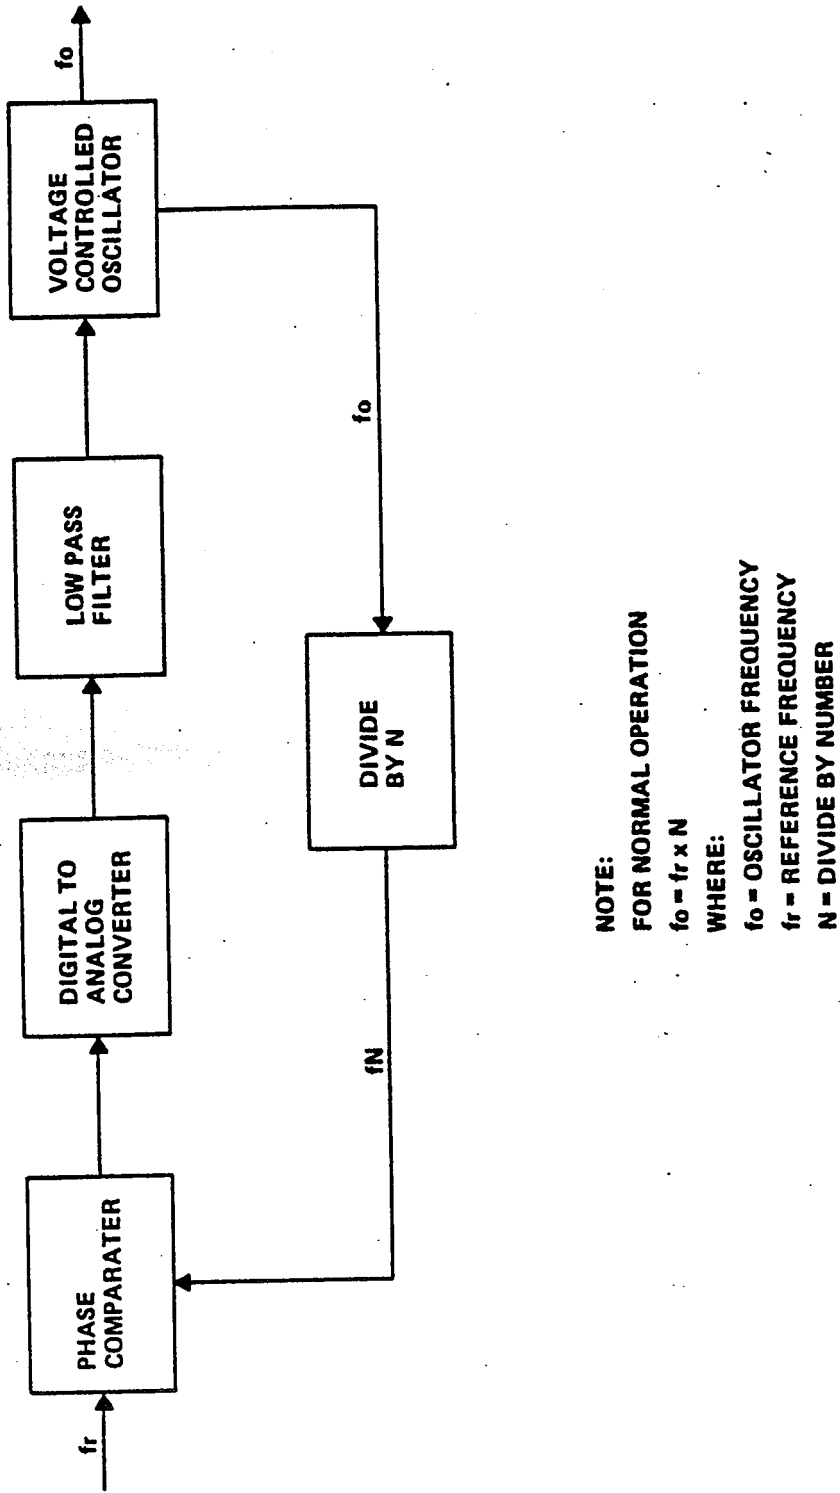

Figure 4-9. Typical Phase Lock Loop Functional Block Diagram.
The first local oscillator synthesizer circuit card assembly A7 contains circuits to produce the first oscillator frequency of 40.955 to 70.454999 MHz for the first mixer which in turn produces the first IF signal of 40.455 MHz. The description of this circuitry is divided into three basic groups: operation of phase lock loops, the digital control circuitry and the oscillator control circuitry. Figures 4-9 through 4-11 respectively, show simplified block diagrams of the three basic circuit divisions. Input signals to the circuit card assembly include receiver control and a 1 MHz reference frequency. The only output signal from the assembly is the 40.955 to 70.454999 MHz oscillator signal.
A basic phase lock loop consists of essentially four main blocks. These are shown in Figure 4-9 and are a Voltage Controlled Oscillator (VCO), a divider capable of dividing the output of the VCO by an integer number ($\div N$), a phase detector (Φ) and a Loop Filter Amplifier (LFA). A phase lock loop configured in this manner is capable of locking to the incoming reference frequency (F_{ref}) and in discrete steps, each frequency step being the same as the incoming reference frequency (F_{ref}). This is derived from the fundamental formula for this type of loop which is $F_o = F_{ref} \times N$; therefore, to vary the main VCO Frequency (F_o) either Freq or N would have to be changed. Most loops perform frequency change by modification of N , the integer divide ratio. It is noted, however, that this type of simple single loop can only vary in frequency steps as small as the reference frequency (F_{ref}). However, it is assumed that a system is possible whereby the main oscillator (F_o) frequency can effectively divide a fractional number, then it is possible to achieve a much finer resolution given the same higher frequency reference. Assume that F_o is 50.123467 MHz and the reference frequency is 100 kHz, then using the above formula the result is with n as the ratio, a non-integer number: $50.123467 = 0.1 \times n$; therefore, $n = 501.23467$. If we split this number into its integer part and its decimal part, the result is a three decade integer and a five-decade decimal number. Generating the non-integer part as an actual frequency is done by considering a portion of the frequency spectrum of interest between 50.1 MHz and 50.2 MHz where this finally generated frequency will occur. Thus, it is possible to generate any signal between these two frequencies by an averaging technique, that is to say (see Figure 4-12) if the signal at 50.2 MHz is sampled, 23,467 times and the signal at 50.1 MHz, 76,533 (100,000-23,467) times then the average or apparent signal produced by this sampling would occur at the frequency of interest at 50.123467 MHz. This type of sampling produces a large number of sampling sidebands on the main output frequency. These can be removed, however, by producing a signal equal and opposite to these predictable sidebands and adding this to the oscillator control signal and effectively nullifying the production of these sidebands.
1. Phase Lock Loop. The 20 MHz oscillator frequency is kept on frequency through a phase locked loop (See Figure 4-9). The oscillator output is routed through a divide by N circuit that provides an oscillator reference frequency. This divided oscillator frequency is coupled to the second clock input of a phase comparator. The phase comparator, described below, detects any phase shift between the oscillator frequency and a reference frequency also connected to the phase comparator. The phase comparator then changes the digital to analog converter output voltage which is connected to the oscillator varactor and crystal. This then causes the oscillator frequency to change. This loop action will continue until the oscillator frequency is brought into phase (same frequency) with the reference frequency.